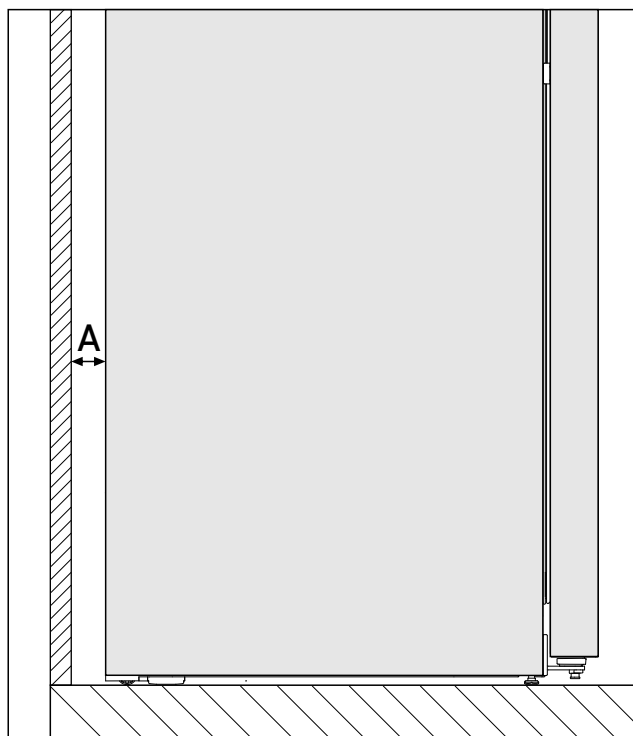

Fig. 2 *
The energy consumption was determined with a wall distance Fig. 2 (A) between the rear of the appliance and the wall. If the wall distance is less than Fig. 2 (A), this has no effect on the functionality of the appliance, but energy consumption increases slightly when the distance to the wall is smaller.